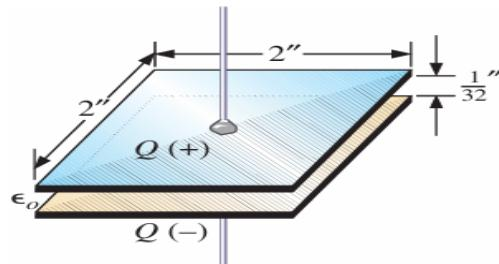

FIG. 10
EXAMPLE 3 For the capacitor in Fig. 10:
- a. Insert a ceramic dielectric with an ϵ_r of 250 between the plates of the capacitor in Fig. 10. Then determine the new level of capacitance. Compare your results to the solution in Example 3.